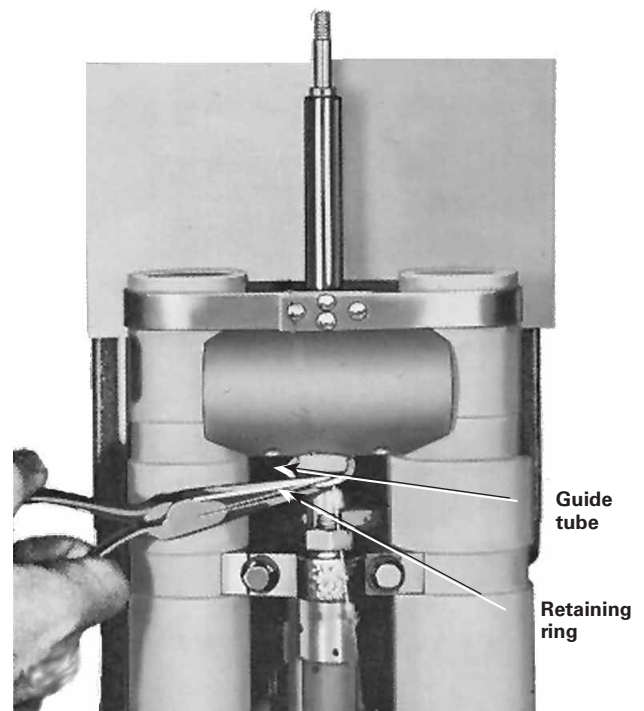
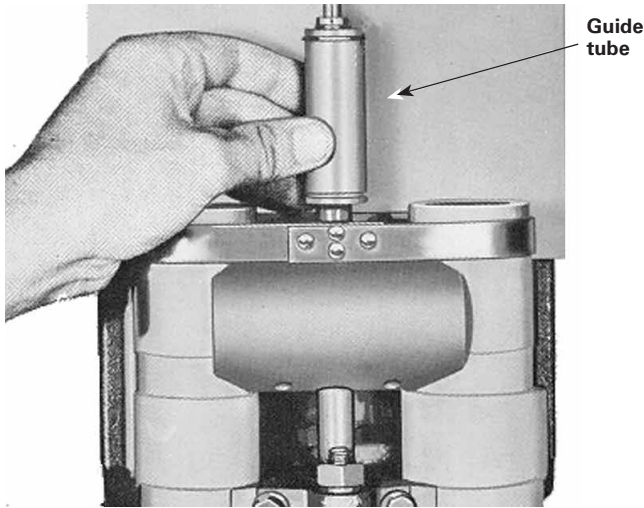

Figure 10. Releasing guide tube
Figure 11. Removing guide tube
2. For units with serial numbers below 134024, pull one retaining ring off the guide tube. (Figure 10) Slide this tube off the contact rod as illustrated in Figure 11. For units with serial numbers above 134024, proceed to Step 3.